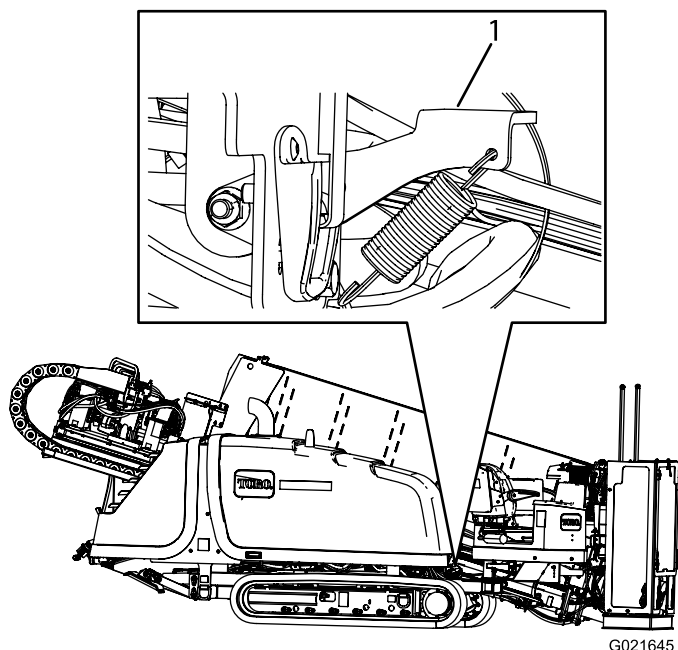

Figure 58
2. Push down on the hood latch as shown in Figure 58.